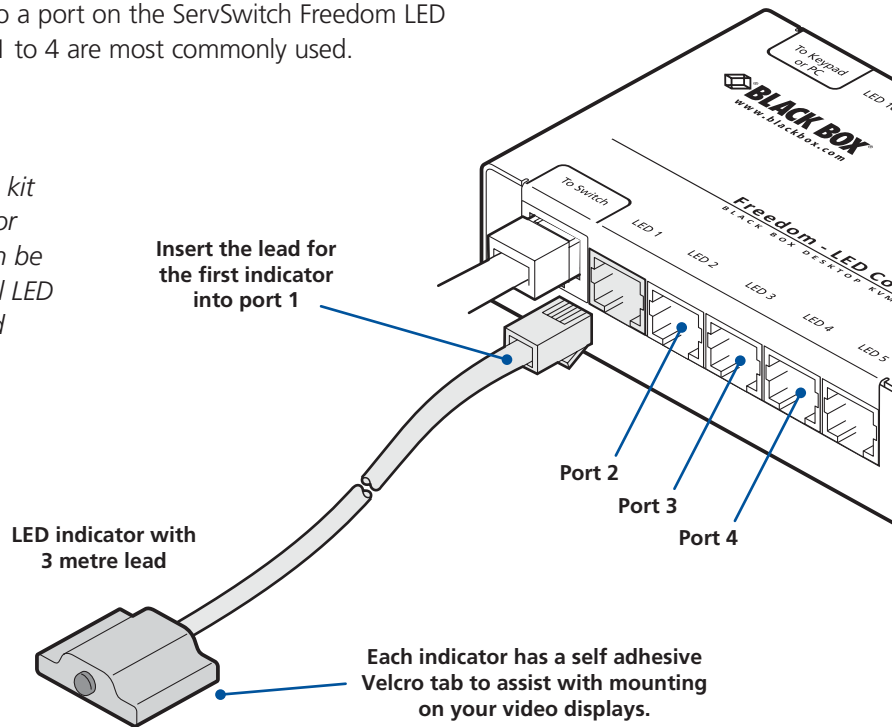

Figure 3-10. Linking LED indicators to the ServSwitch Freedom LED Monitor module.
2. Link each LED indicator to a port on the ServSwitch Freedom LED Monitor module - ports 1 to 4 are most commonly used. See Figure 3-10.